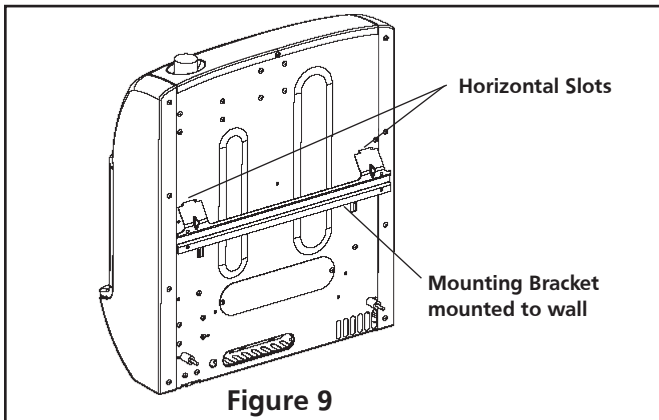

Figure 9
- Locate two horizontal slots on back pane of heater (see figure 9).